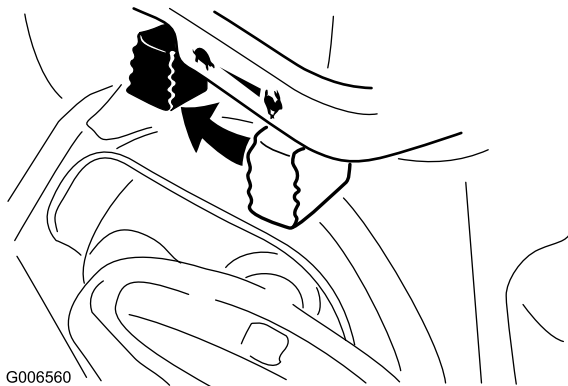

Figure 31
1. Move the throttle to the Slow position, and then to the Stop position (Figure 31).